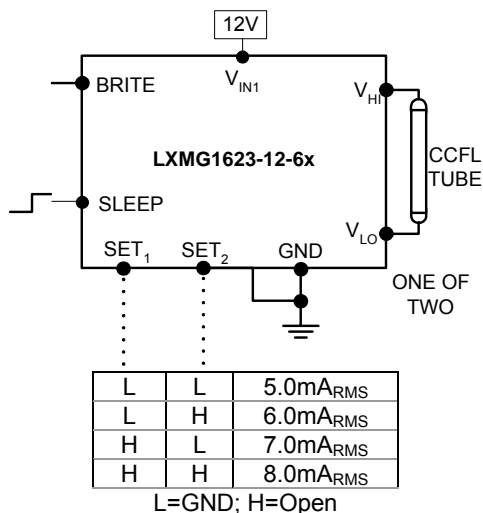

Figure 2 – Maximum Output Current
- Use the SET₁ and SET₂ (see Figure 2) inputs to select the desired maximum output current. Using these two pins in combination allows the user to match a wide variety of panels from different manufacturers. Generally the best lamp lifetime correlates with driving the CCFL at the manufacturers nominal current setting. However the SET₁ and SET₂ inputs allow the user the flexibility to adjust the current to the maximum allowable output current to increase panel brightness at the expense of some reduced lamp life.